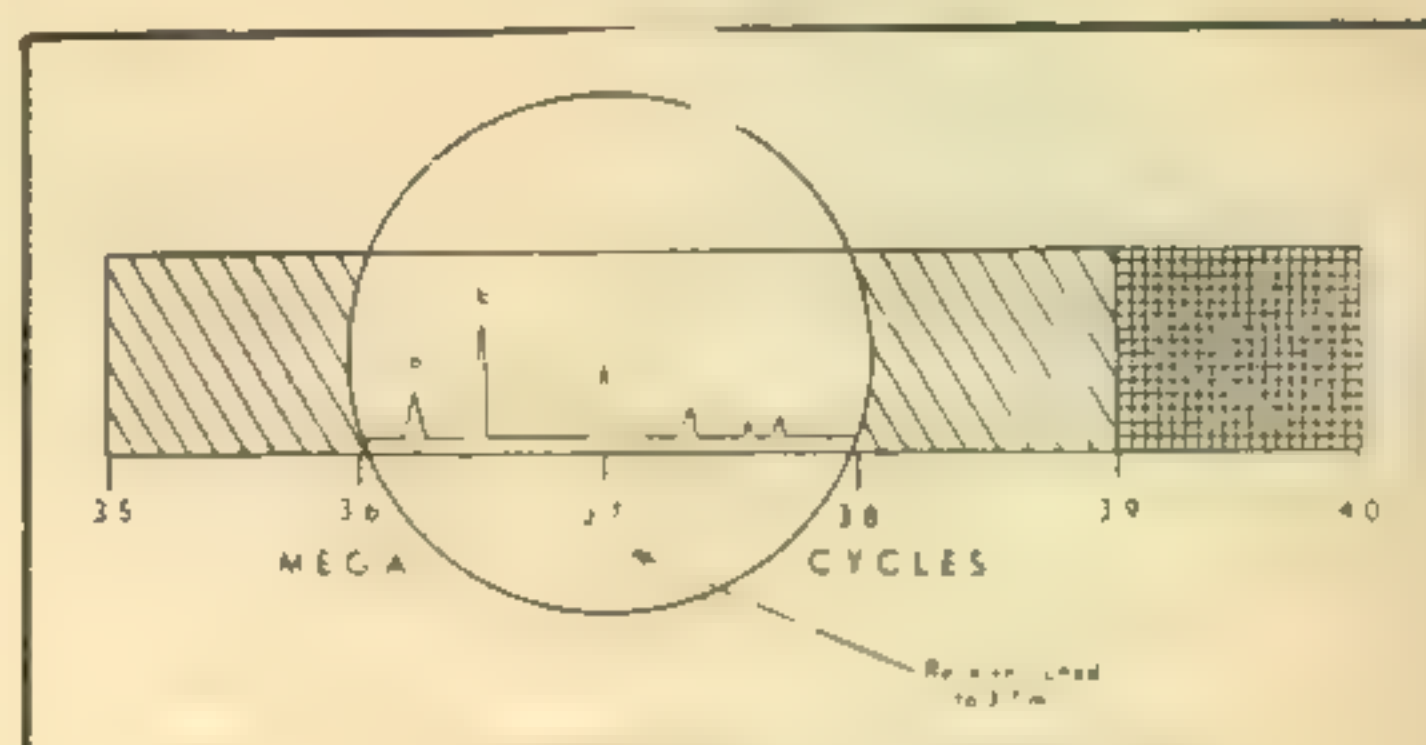
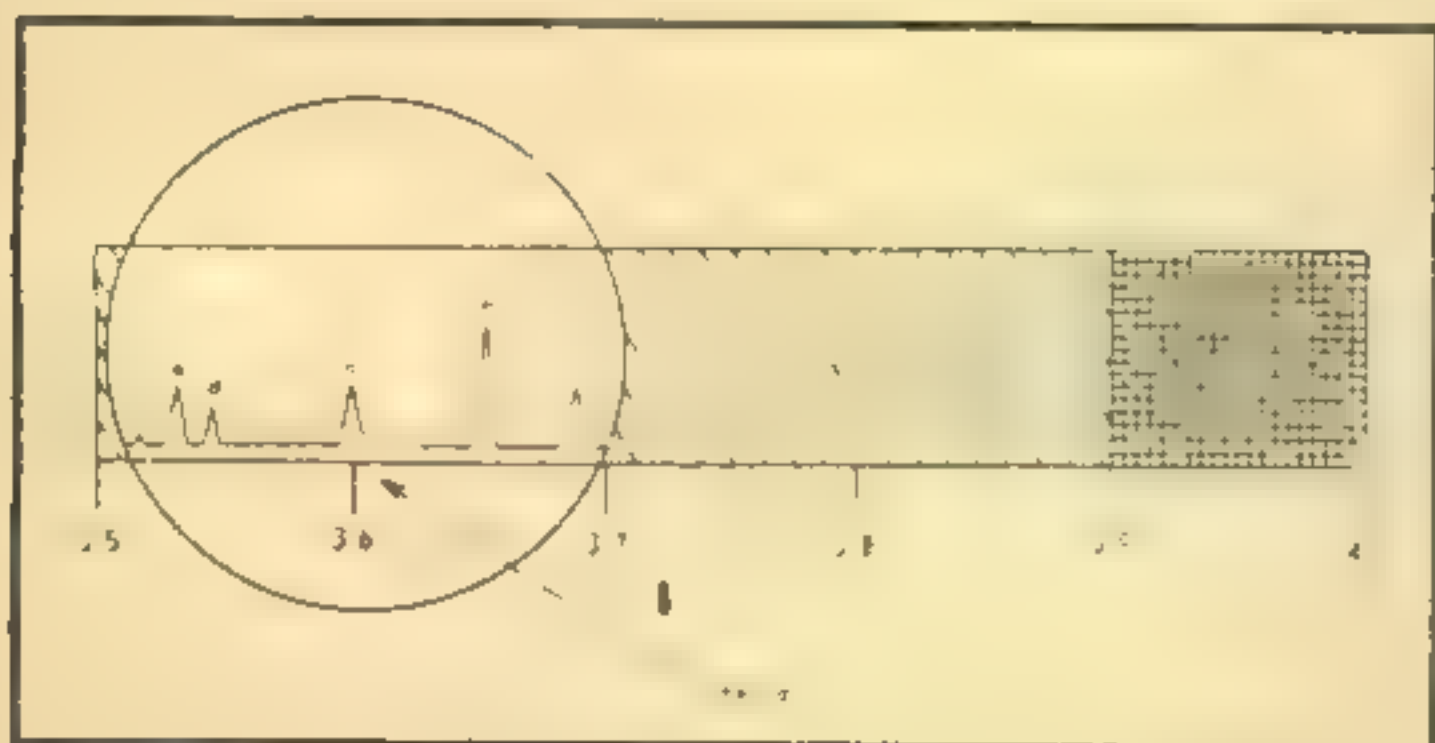

Figure 3
Figure 4
Let us choose the 3.5 mc (80-meter) amateur band for our discussion. This band extends from 3.5 mc to 4.0 mc and is shown graphically in *Fig. 2*. Assuming that your receiver has been equipped with a Panadaptor of 200-kc bandwidth and is tuned to 3.7 megacycles, all the signals between 3.6 and 3.8 mc will be visible on the Panadaptor screen (*Fig. 3*). The signal (c) heard on the receiver will of course appear at the center of the screen. Should you wish to listen to the signal (a), the receiver would have to be tuned to a lower frequency. As the receiver is shifted, all the peaks will move to the right across the screen until the signal (2) is heard in the phones. At that moment, it will appear centered (*Fig. 4*). Signal (c) has now moved to the right of the screen and is visible but no